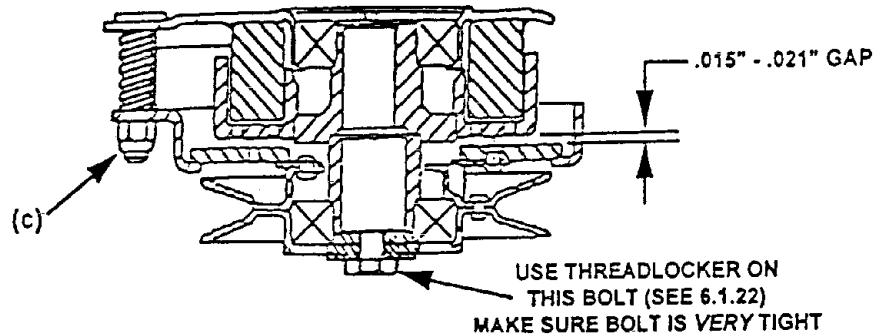

FIG. 12
- c) Place .015-.021 inch feeler gauge through each of the three clutch gap holes. If gap exceeds this range, tighten the three adjusting nuts (C) until the proper gap is obtained (See Figure 12). The three clutch gap holes are located at the "nut side" of the adjusting bolts. The adjusting bolts can be identified by the springs surrounding each bolt.